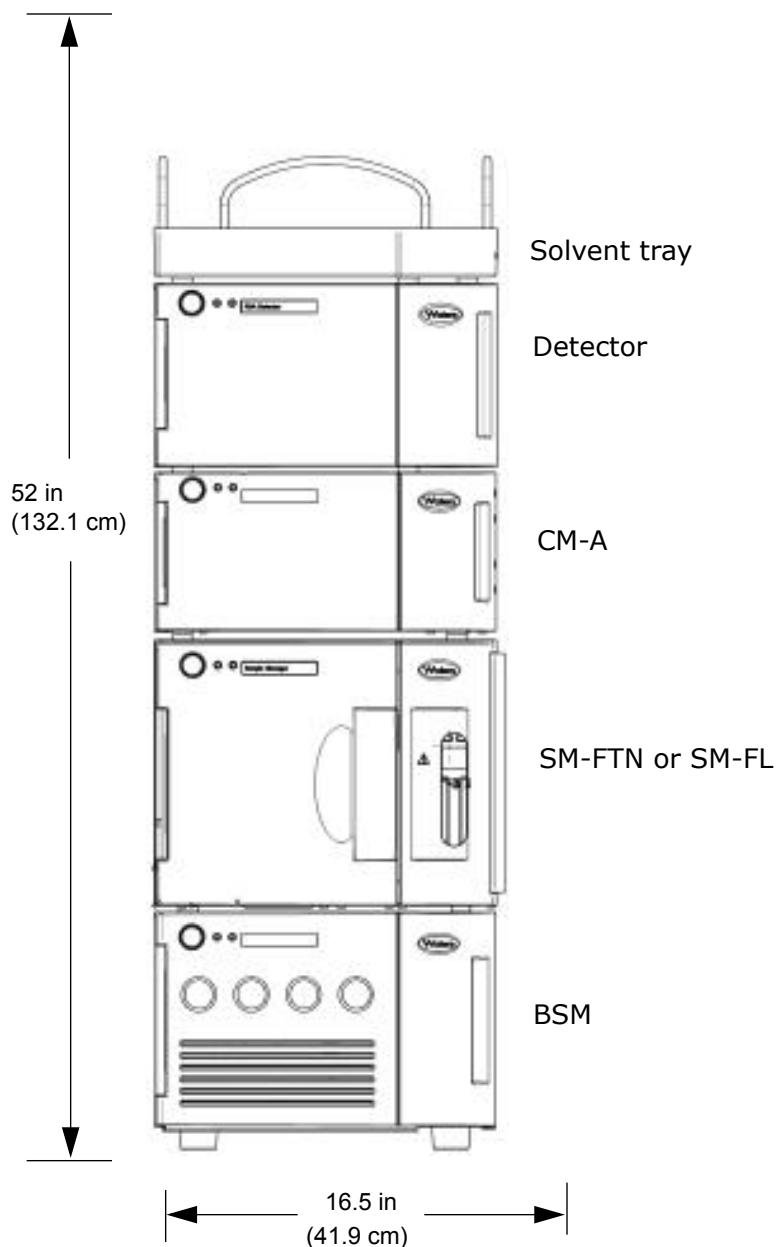

Figure 2 - ACQUITY I-Class System with Column Manager-A
Figure 2 shows an ACQUITY I-Class System with an optional Column Manager (CM-A) positioned above the sample manager.
**NOTE:** The vertical dimension in Figure 2 includes an extra 10-inch (25.4-cm) clearance for solvent tray access; the horizontal dimension includes an extra 3-inch (7.6 cm) right-side clearance for SM-FTN and CM-A ventilation. See Table 1 for depth requirements.